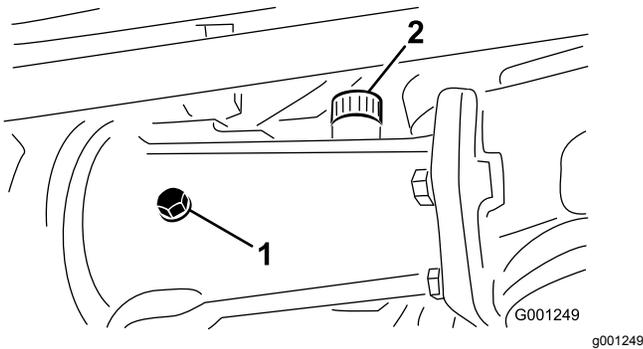
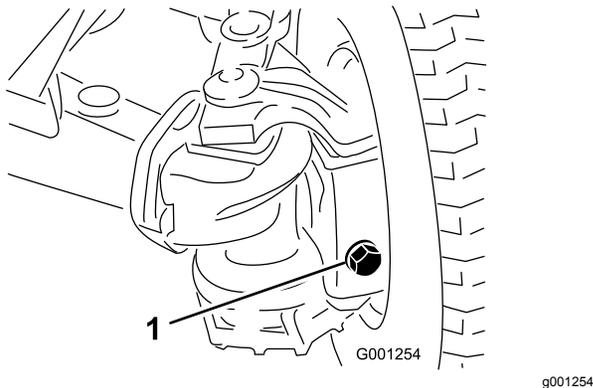

Figure 60
Figure 61
2. Remove the check plug from the center-axle housing and the axle and fill/check plugs at each outboard-axle case (Figure 60 and Figure 61).
3. Check that there is lubricant up to the threads at the bottom of each plug hole (Figure 60 and Figure 61).
- A. If filling the center-axle housing, remove the fill plug (Figure 60).
- B. Add the specified rear-axle lubricant into the axle reservoir(s) until the lubricant level up to the bottom of the check-plug holes (Figure 60 and Figure 61).
- C. If removed from the center-axle housing, apply PTFE thread sealant to the threads of the fill plug and install it into the housing (Figure 60).
5. Apply PTFE thread sealant to the threads of the check plug from the center-axle housing and fill/check plugs from the 2 outboard-axle cases (Figure 60).
6. Install the check plug into the center-axle housing and fill/check plugs into the 2 outboard-axle cases (Figure 60 and Figure 61).
1. Drain plug (3)
8. Apply PTFE thread sealant to the threads of the check plug from the center-axle housing and fill/check plugs from the 2 outboard-axle cases; refer to Figure 60 and Figure 61 in Checking the Rear Axle Lubricant (page 54).
9. Install the check plug into the center-axle housing and fill/check plugs into the 2 outboard-axle cases; refer to Figure 60 and Figure 61 in Checking the Rear Axle Lubricant (page 54).